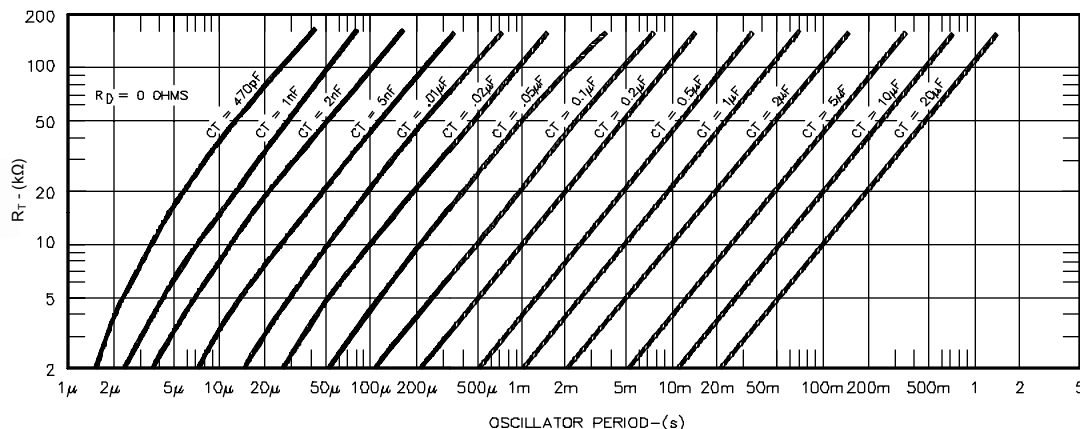

FIGURE 19.
1. With $R_D = 0\Omega$ (pin 11 shorted to ground) select values for R_T and C_T from Figure 19 to give the desired oscillator period. Remember that the frequency at each driver output is half the oscillator frequency, and the frequency at the $+V_C$ terminal is the same as the oscillator frequency.